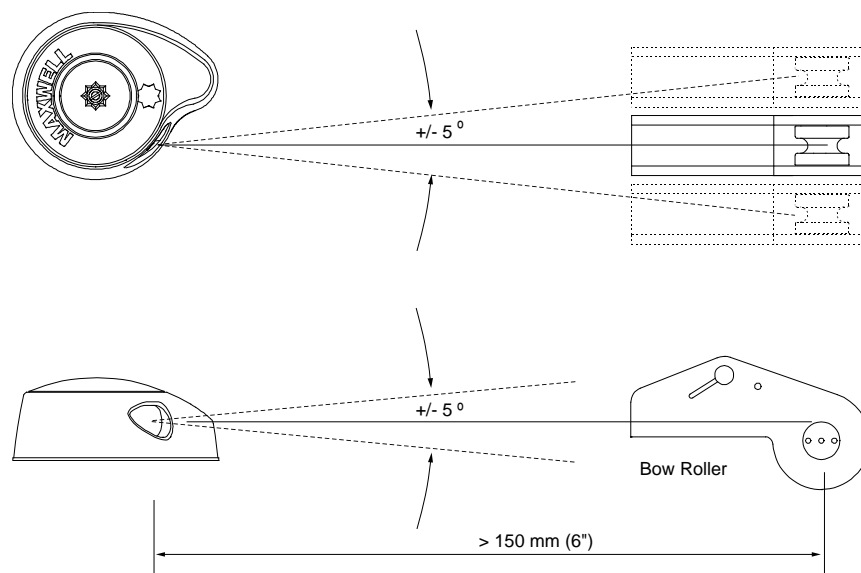

Figure 13 - Aligning the windlass with the bow roller
- The bow roller should have a central groove suitable for the chain size, as shown in “Figure 13 - Aligning the windlass with the bow roller” on page 15.
- The windlass should be aligned with the bow roller within the tolerances shown in Figure 13 below.
1. Position the template on the deck using the alignment guidelines on the template. (See also "Figure 13 - Aligning the windlass with the bow roller" on page 15).
Ensure that the windlass has the correct vertical alignment with the bow roller as shown in "Figure 13 - Aligning the windlass with the bow roller" on page 15.